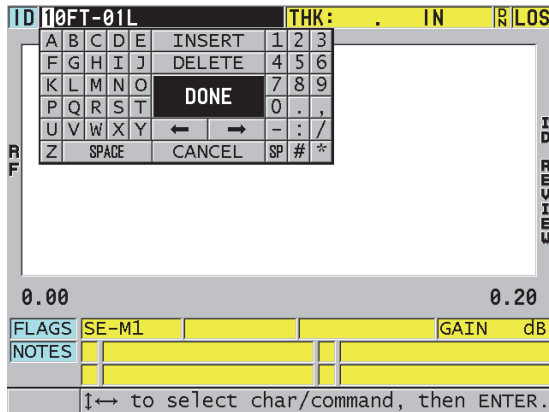

Figure 11-28 Editing the ID # edit mode
4. Press **[ID#]** again, and edit the ID value (see Figure 11-28 on page 218).